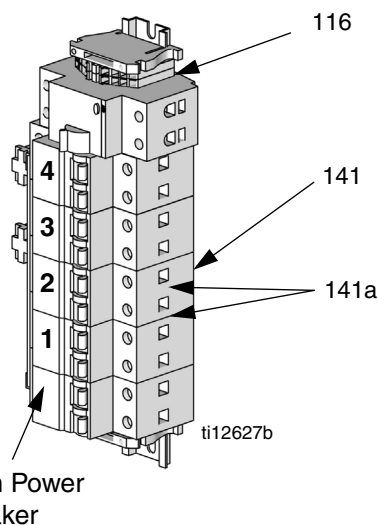
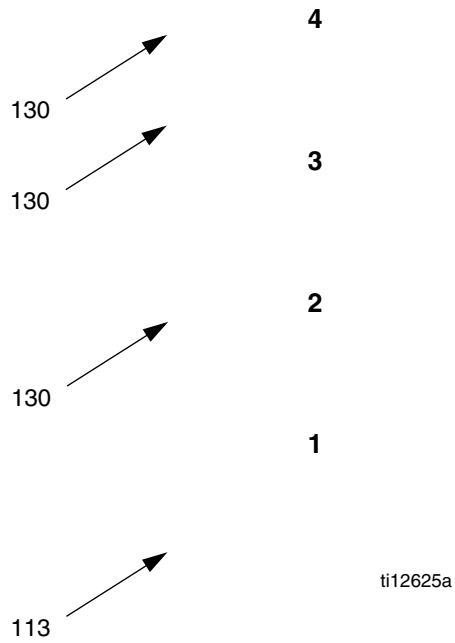

FIG. 3: Breaker Numbering
FIG. 6: Data Cable Connections
There is one breaker for each heated hose or heated tank. The lower number breakers are used for the heated tanks if installed. See FIG. 3. For example, if there are two heated tanks installed and two heated hoses, breakers #1 and #2 are used for the heated tanks and breakers #3 and #4 are used for the heated hoses. If there is one heated tank and one heated hose, then breaker #1 is used for the heated tank and breaker #2 is used for the heated hose. Each breaker has a different rating so it is important that the correct breaker is used.
2. Connect the green wire to any unused ground terminal block (116).
3. Find the breaker with the same number as the module as shown in FIG. 3 on page 6 and FIG. 6 on page 9.
4. Connect the black and white wires to the breaker (141) labeled with the same number as the module. The black and white wires can connect to either terminal (141a) in the same breaker (141).
The low power temperate control modules must be connected together using the female-female CAN cables (130) as shown in FIG. 6. Then they must be connected to the display module using the female-male CAN cable (113).